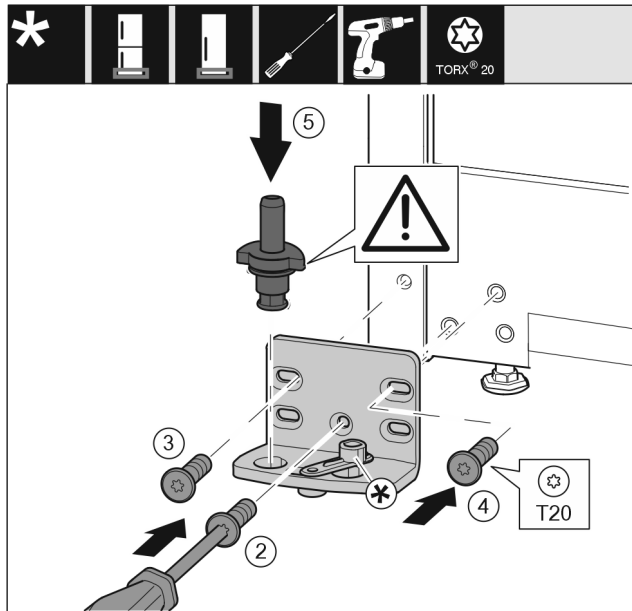

Fig. 21 \*
- Place the swap bearing block on the other side and use a screwdriver to screw it on. Start with the screw Fig. 21 (2) at the bottom in the middle.\*
- Tighten screw Fig. 21 (3) and screw Fig. 21 (4).\*
- Insert the bearing bolt Fig. 21 (5) completely. Ensure that the latching cam is pointing towards the rear.\*
- Place the swap bearing block on the other side and use a screwdriver to screw it on. Start with the screw (2) at the bottom in the middle.\*
- Tighten screw (3) and screw (4).\*
- Insert the bearing bolt (5) completely. Ensure that the latching cam is pointing towards the rear.\*